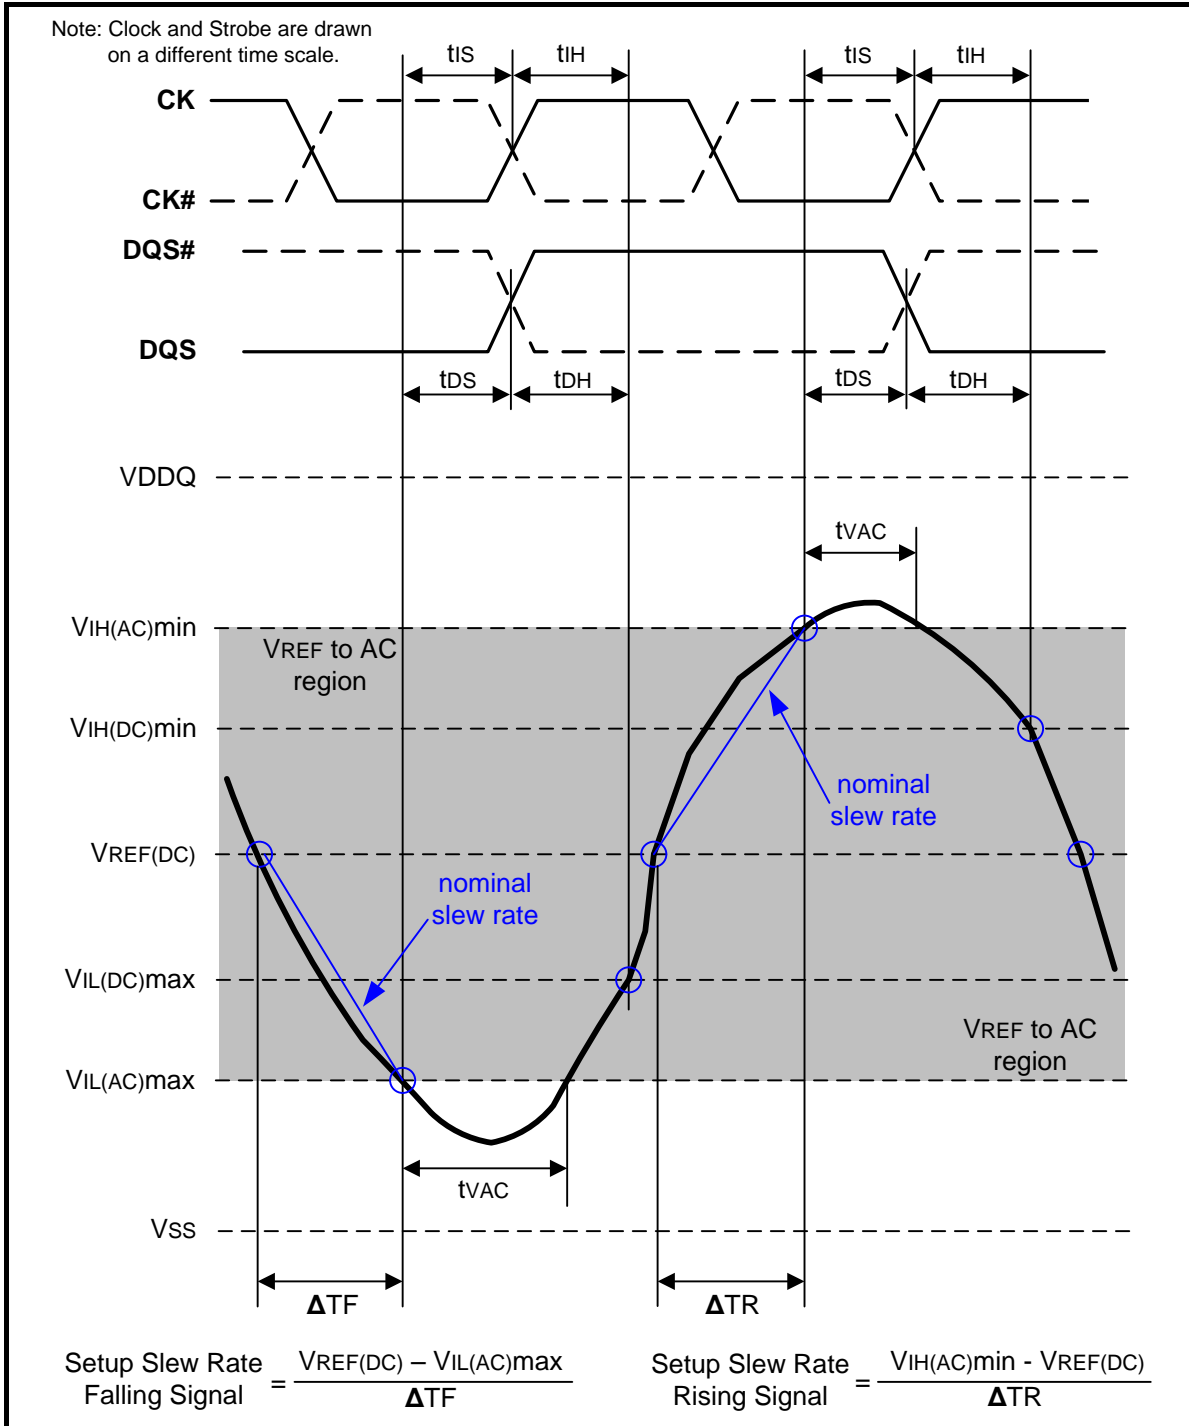
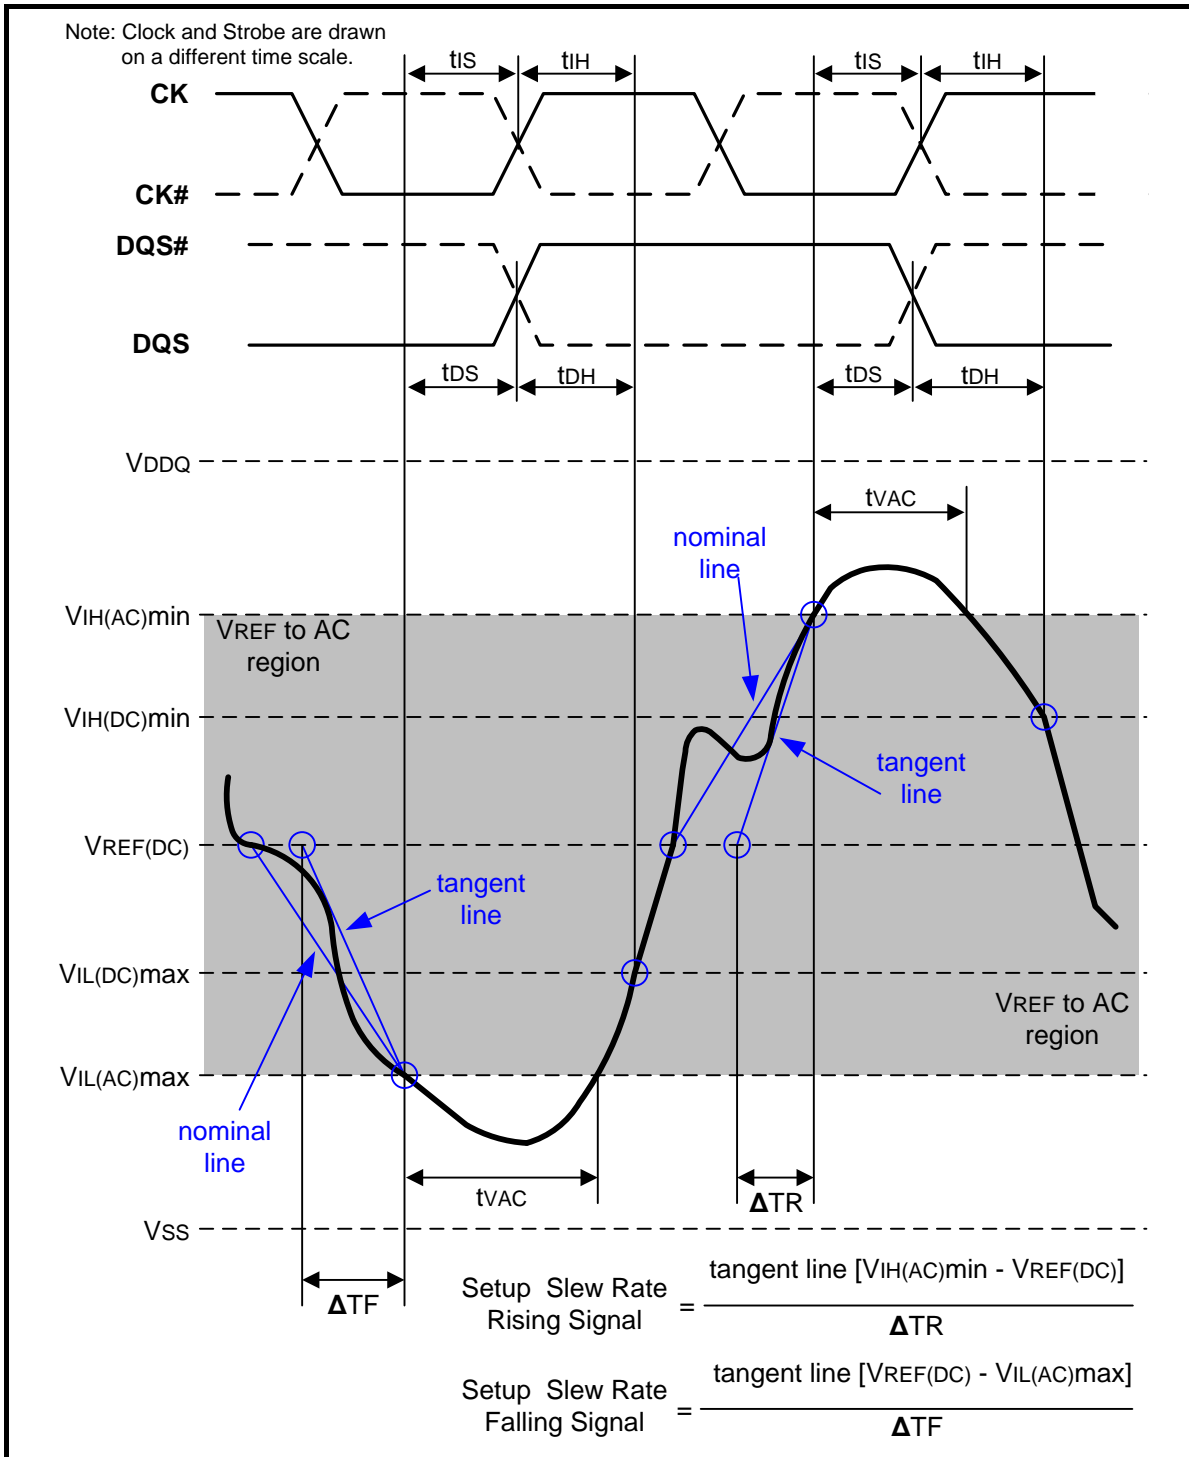

Figure 107 – Illustration of nominal slew rate and tvac for setup time tDS (for DQ with respect to strobe) and tIS (for ADD/CMD with respect to clock)
Figure 109 – Illustration of tangent line for setup time tDS (for DQ with respect to strobe) and tIS (for ADD/CMD with respect to clock)
Setup ( $t_{IS}$ ) nominal slew rate for a rising signal is defined as the slew rate between the last crossing of  $V_{REF}(\text{DC})$  and the first crossing of  $V_{IH}(\text{AC})_{\text{min}}$ . Setup ( $t_{IS}$ ) nominal slew rate for a falling signal is defined as the slew rate between the last crossing of  $V_{REF}(\text{DC})$  and the first crossing of  $V_{IL}(\text{AC})_{\text{max}}$ . If the actual signal is always earlier than the nominal slew rate line between shaded 'VREF(DC) to AC region', use nominal slew rate for derating value (see Figure 107). If the actual signal is later than the nominal slew rate line anywhere between shaded 'VREF(DC) to AC region', the slew rate of a tangent line to the actual signal from the AC level to  $V_{REF}(\text{DC})$  level is used for derating value (see Figure 109).
Setup (tDS) nominal slew rate for a rising signal is defined as the slew rate between the last crossing of VREF(DC) and the first crossing of VIH(AC)min. Setup (tDS) nominal slew rate for a falling signal is defined as the slew rate between the last crossing of VREF(DC) and the first crossing of VIL(AC)max (see Figure 107). If the actual signal is always earlier than the nominal slew rate line between shaded 'VREF(DC) to AC region', use nominal slew rate for derating value. If the actual signal is later than the nominal slew rate line anywhere between shaded 'VREF(DC) to AC region', the slew rate of a tangent line to the actual signal from the AC level to VREF(DC) level is used for derating value (see Figure 109).